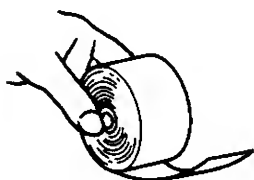

Fig. 2
3. Place a new paper roll in the direction shown in Fig. 2 so that the paper end will be fed from the bottom.